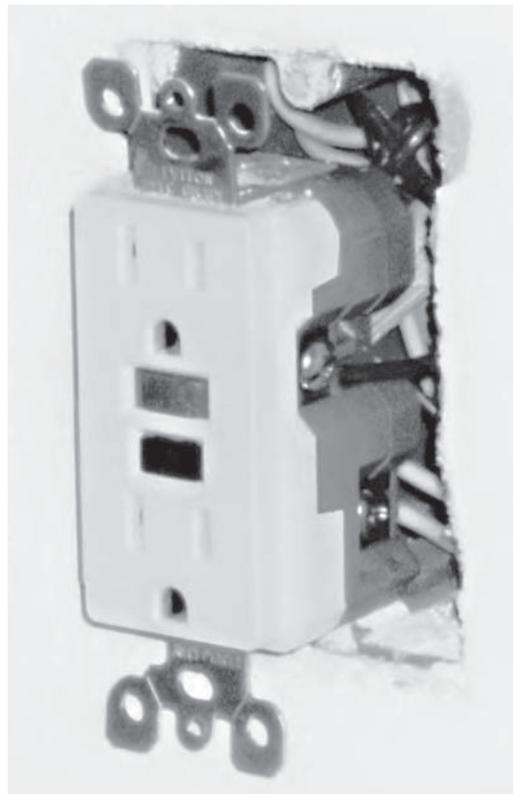

FIGURE 16.13
from the structure by porcelain knob and tube fasteners. Now the most common wiring is a single *nonmetallic (NM) cable*—a thermoplastic jacket containing insulated hot, insulated neutral, and an unsheathed grounding wire (Figure 16.13). There are two types of NM cable—NMB for common use and UF with a plastic-sheathed grounding wire for underground or wet locations. In some locations, such as a water heater or electric range, wires require more protection from physical abrasion than NM cable can provide. In these situations, a flexible *metal-clad cable* or metal or plastic *conduit* is employed.